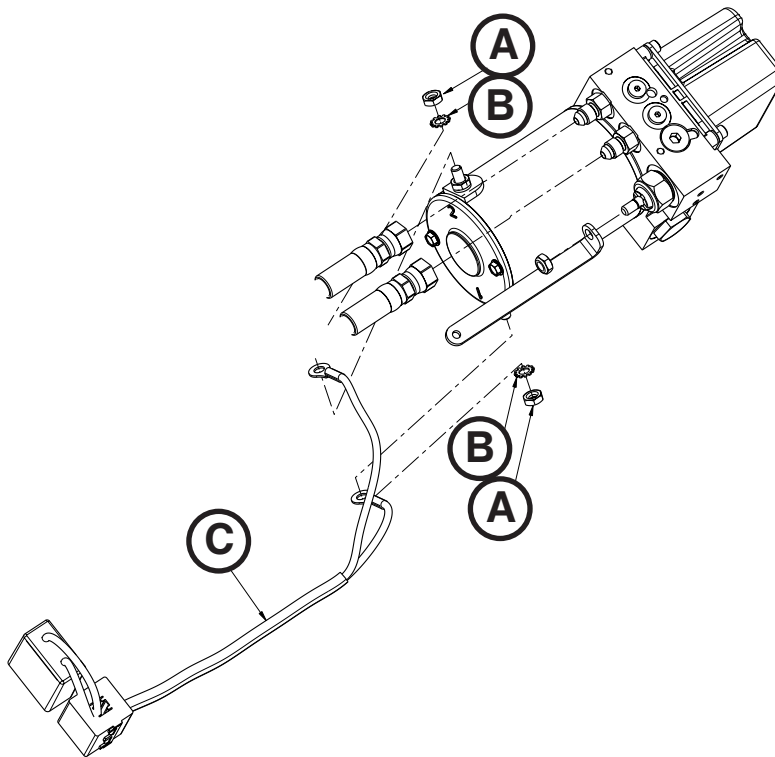

Figure 91
4. Using a 7/16" combination wrench, remove the two nuts (A) and star washers (B) that secure the motor cable (C) to the motor assembly (Figure 91).